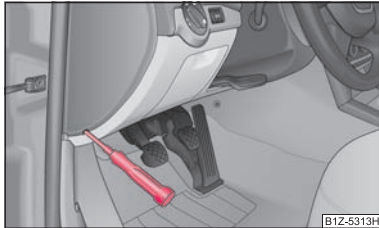

Fig. 188 Fuse cover: left side of the dash panel
- Use a screwdriver to take off the fuse cover on the side of the dash panel ⇒ fig. 188 or the fuse cover in the engine compartment ⇒ page 217.